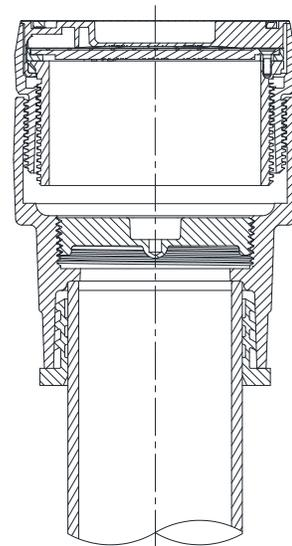

Fig. 2
2. Install cleanout body on pipe and pressure test connection per local code requirements. See Fig. 2 (Neo-loc body shown for reference)